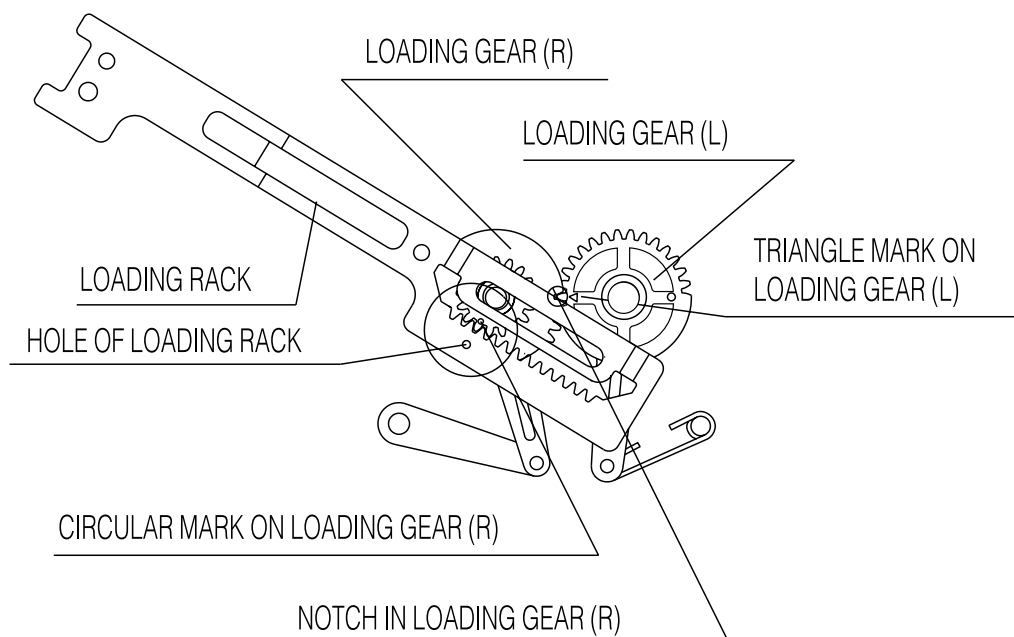

Fig.3-9 ASSEMBLY OF the R/L LOADING ASS'Y & LOADING RACK ASS'Y
- When reassembling, refer to Fig. 3-9